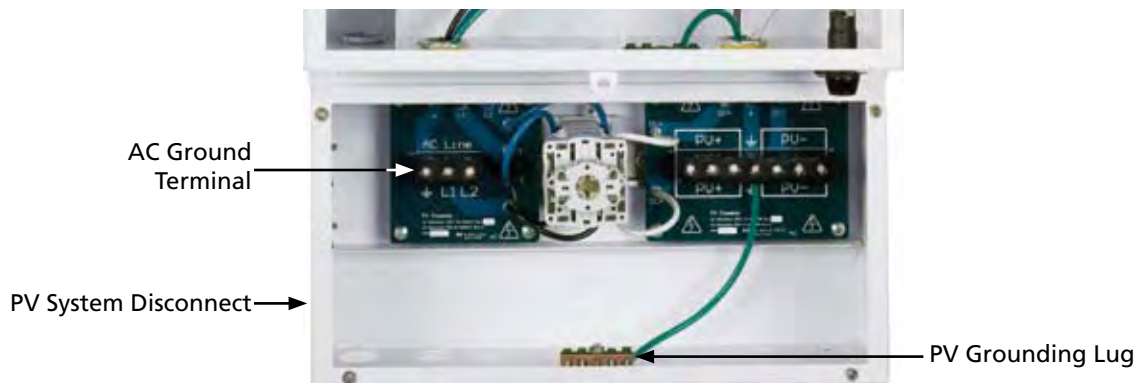

Figure 3-8 AC and PV Grounding
- Do not tie the GEC to the PV array positive or negative. This would defeat the PV ground fault interrupt protection circuit. Refer to Figure 3-8 for illustrated information.
- For the GFI circuit to function as designed, the GEC must be connected only at the ground terminals detailed in Figure 3-8.
5. Connect the PV equipment ground conductor to the ground lug located on the front inside portion of the PV System Disconnect. Refer to Figure 3-8.